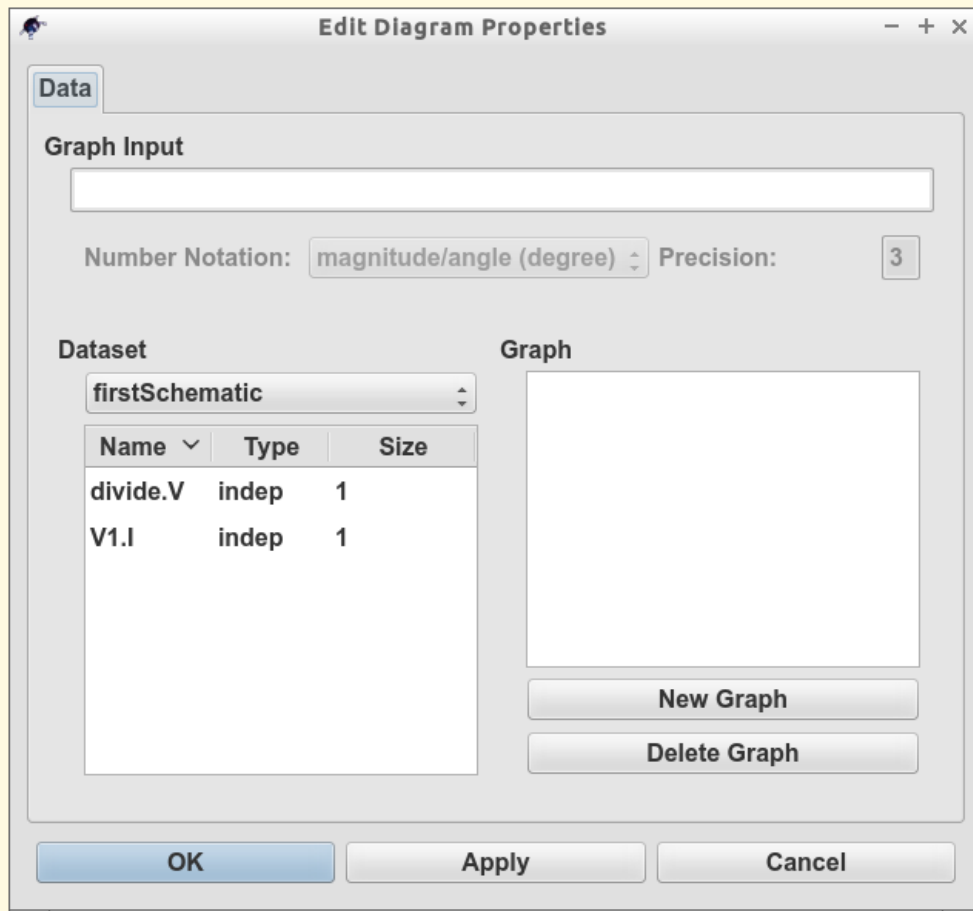

Figure 4 - Qucs data display window showing a **Tabular** dialogue
To start DC simulation click on the **Simulate** toolbar button (or use menu: **Simulation** → **Simulate**). A simulation window opens and a sliding bar reports simulation progress. Normally, all this happens so fast that you only see a short flickering on the PC display (this depends on the speed of your PC). After finishing a simulation successfully Qucs opens a data display window. This replaces the schematic entry window labelled (6) in Figure 3. Next the **Components** → **diagrams** toolbar is opened. This allows the simulation results to be listed. Click on the **Tabular** item and move it to the display working area, placing it by clicking the left hand mouse button. A dialogue opens allowing selection of the named signals you wish to list, see Figure 4. On the left hand side of the **Tabular** dialogue (called Edit Diagram Properties) is listed the node name: **divide.V**. Double-click on it and it will be transferred to the right hand side of the dialogue. Leave the dialogue by clicking the **OK** button. The DC simulation voltage data for node **divide** should now be listed in a box on the data display window, with a value of 0.666667 volts.